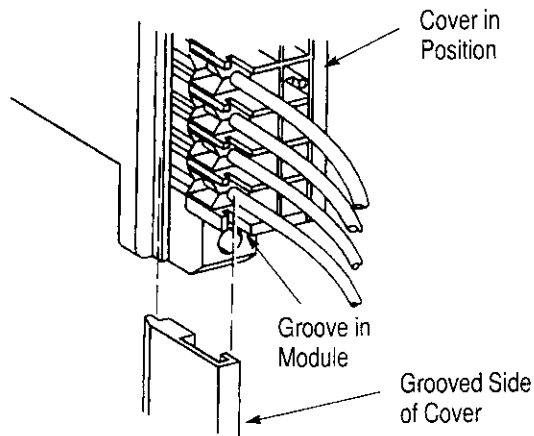

Figure 7
7. INSTALLING IDC MODULE COVERS (Figure 7)